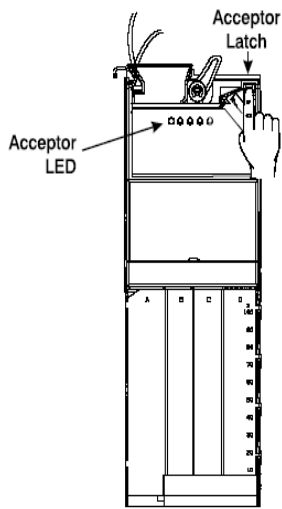
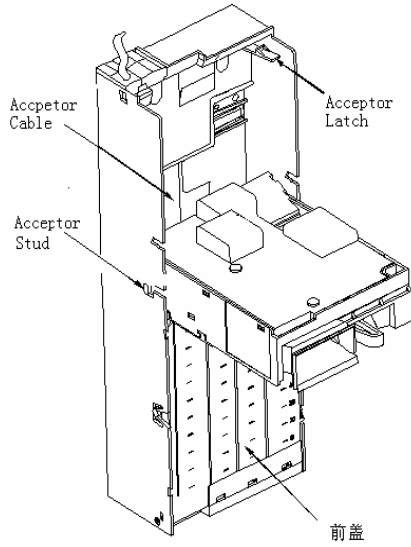

figure 2-1
figure2-2
2. Remove the acceptor from the changer by pressing down on the acceptor latch, releasing the acceptor.(see figure 2.1) .Rotate the top of the acceptor forward, away from the changer. (see figure 2.2). Unplug the ribbon cable from changer. Free the lower acceptor studs from the changer housing. Place the acceptor in a clear area.
4. Re-install the acceptor by inserting the lower acceptor studs into the changer housing guides. Plug the ribbon cable into the changer. (see figure 2.2)